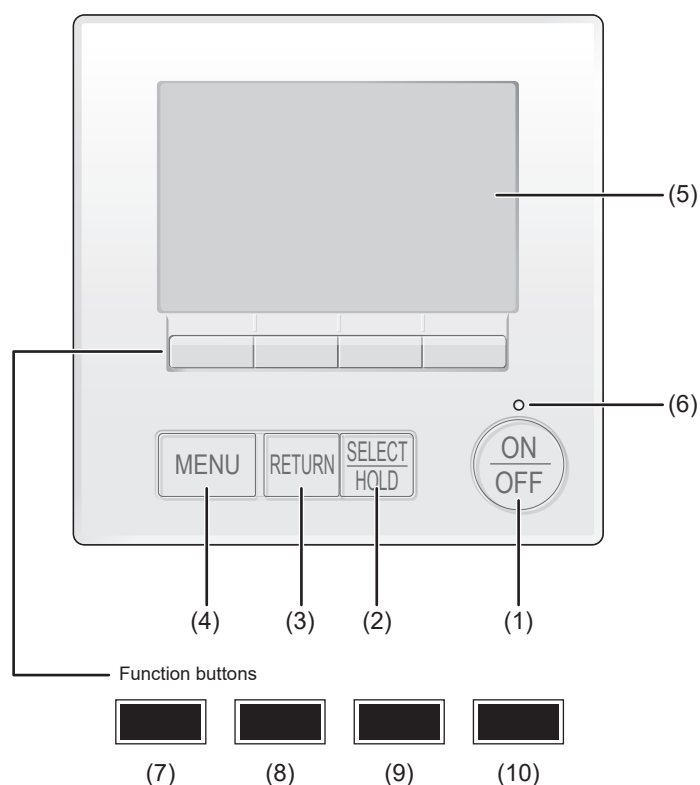

Fig. 7-1
7.2.1. Using wired MA remote controller (Fig. 7-1)